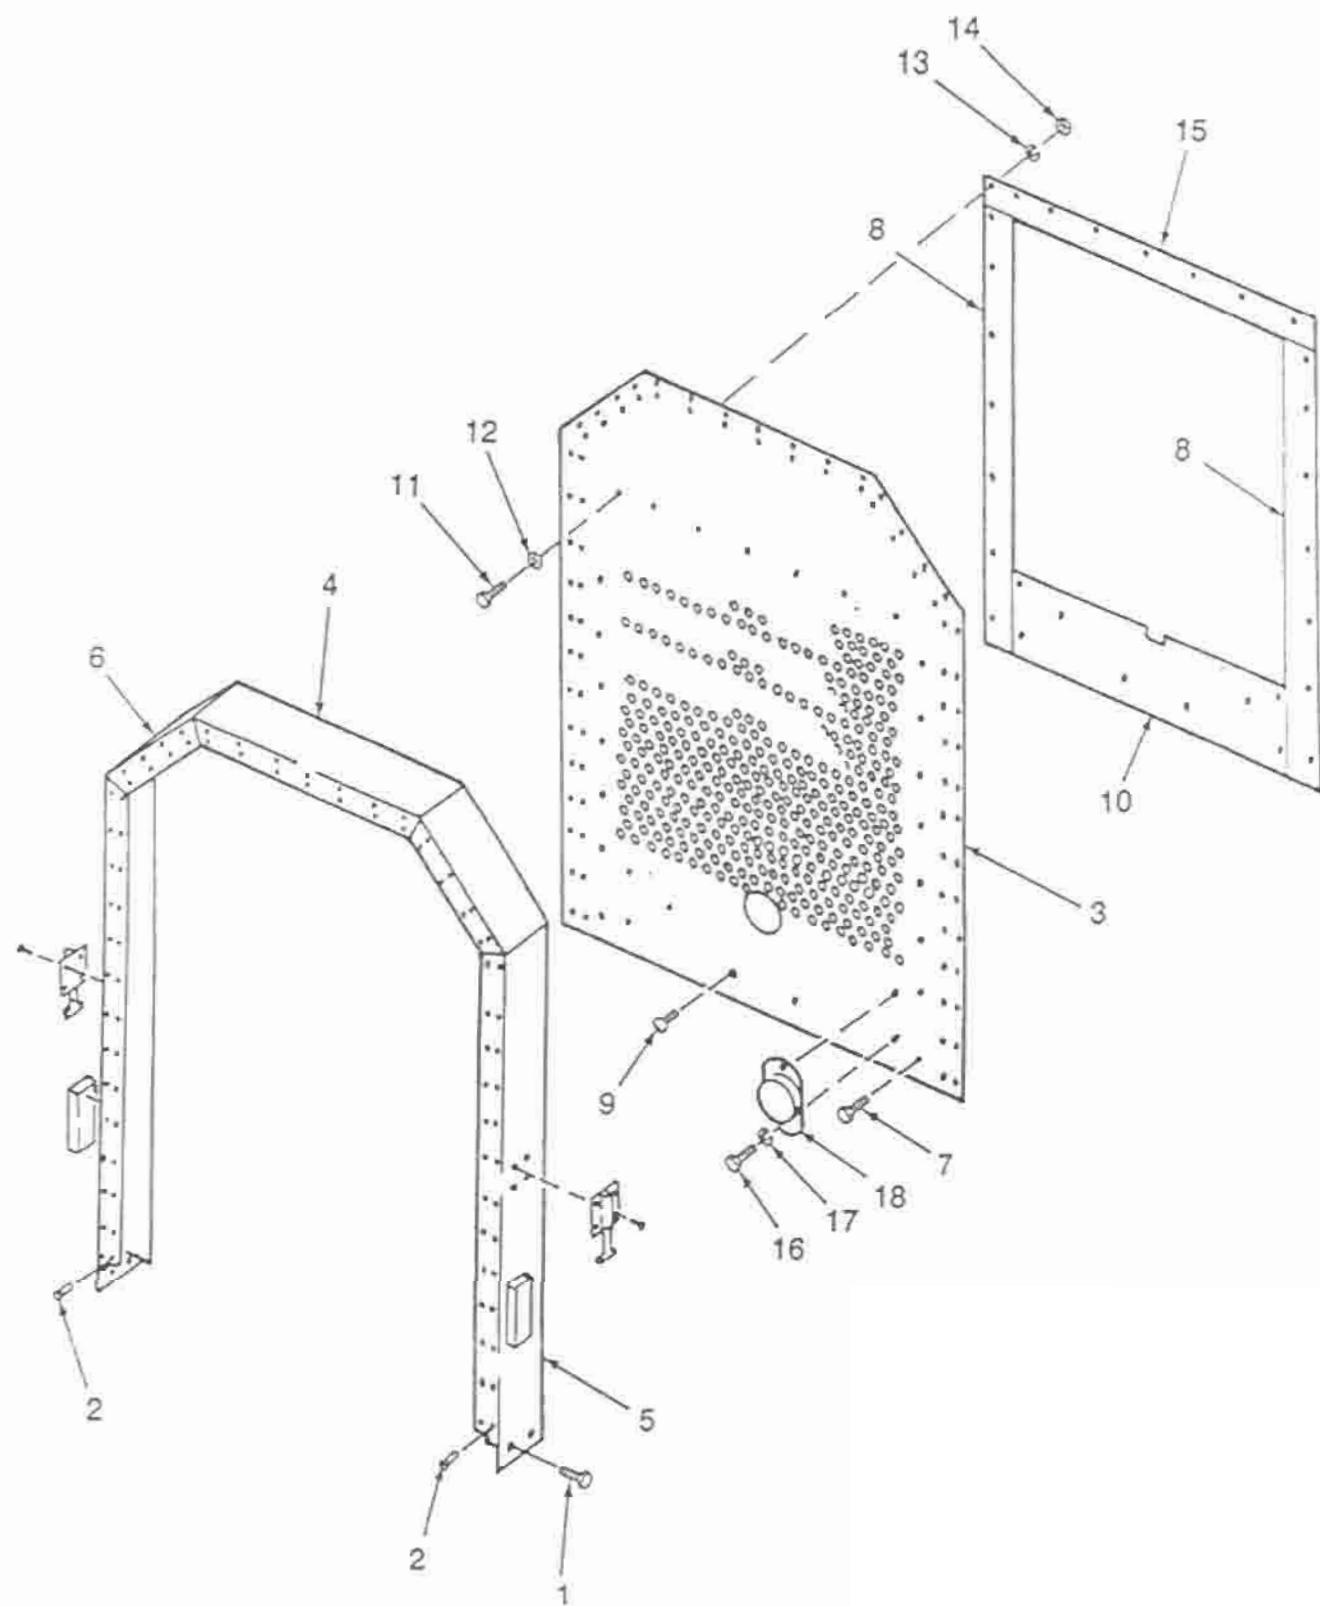

Figure 3-3. Panel Front
3-12. Panel Front. (Refer to Figure 3-3). Disassemble front panel group only to the extent necessary to replace or repair a defective subassembly on subassemblies as follows.
KEY TO FIGURE 3-3
a. Remove four cap screws (1), four lock washers (2), four flat washers (3), securing oil cooler bracket (4 and 5) to thermo cooler (6).
b. Remove six cap screws (7), six lock washers (8), six flat washers (9), securing oil cooler bracket (4 and 5).
c. Remove eight cap screws (10), eight lock washers (11), eight flat washers (12), securing oil cooler brackets (4 and 5) to unit frame.
d. Remove fourteen cap screws (13), fourteen flat washers (14), fourteen lock washer (15), fourteen plain nuts (16), securing oil cooler bracket (4 and 5) to unit frame.
e. Remove seven cap screws (11, Figure 3-3), seven flat washers (12, Figure 3-3), seven lock washers (13, Figure 3-3), seven plain nuts (14, Figure 3-3), then secure top bracket (17, Figure 3-4) to left and right oil cooler brackets (4 and 5).
f. Loosen cooler tube nuts. Disconnect oil cooler tubes (18 and 19) from adapter elbows (20) and then remove adapter elbows (20) and adapters (21) from oil cooler (6).
g. Remove oil cooler (6) from unit frame.
h. Loosen four hose clamps (22) securing radiator hose assemblies (23 and 24) to radiator (25) and remove hoses.
i. Remove four cap screws (26) and self-locking nut (27) attaching air cleaner bracket (28 and 29) to both sides of radiator (25) along with gaskets (30).
j. Remove four machine screws (31), four lock washers (32), four flat washers (33), securing fan guard (34) to radiator (25) and remove fan guard.
k. Remove drain hose (35) from radiator (25).
l. Remove six cap screws (36), six self-locking nuts (37) holding radiator bracket (38) to radiator (25), remove radiator bracket.
m. Remove four cap screws and lock washers securing fan assembly (39) to pump drive pulley. Remove fan assembly (39) and fan spacer (40).
n. Remove shut-off drain cock (41) from radiator (25).
o. Remove radiator (25) from unit frame.